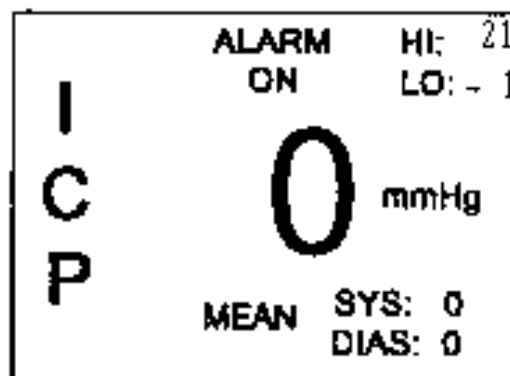

Figure 16
13.6.8 Use the arrow keys to set the LO limit to -1, then press MENU/ENTER. Verify that the DUT returns to the standard run mode with the "ALARM ON" and "HI: 21", "LO: -1" limits displayed at the top of the screen per Figure 16. Verify that the display and audio alarms are not engaged at this time.